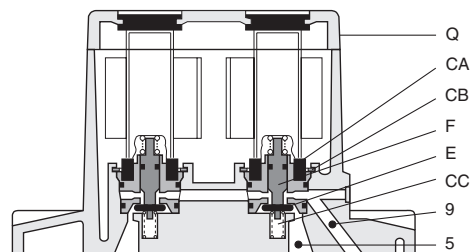

Figure 8 - Cross Section of Pilot Assembly
1. Remove pilot cover Q (Figure 8).